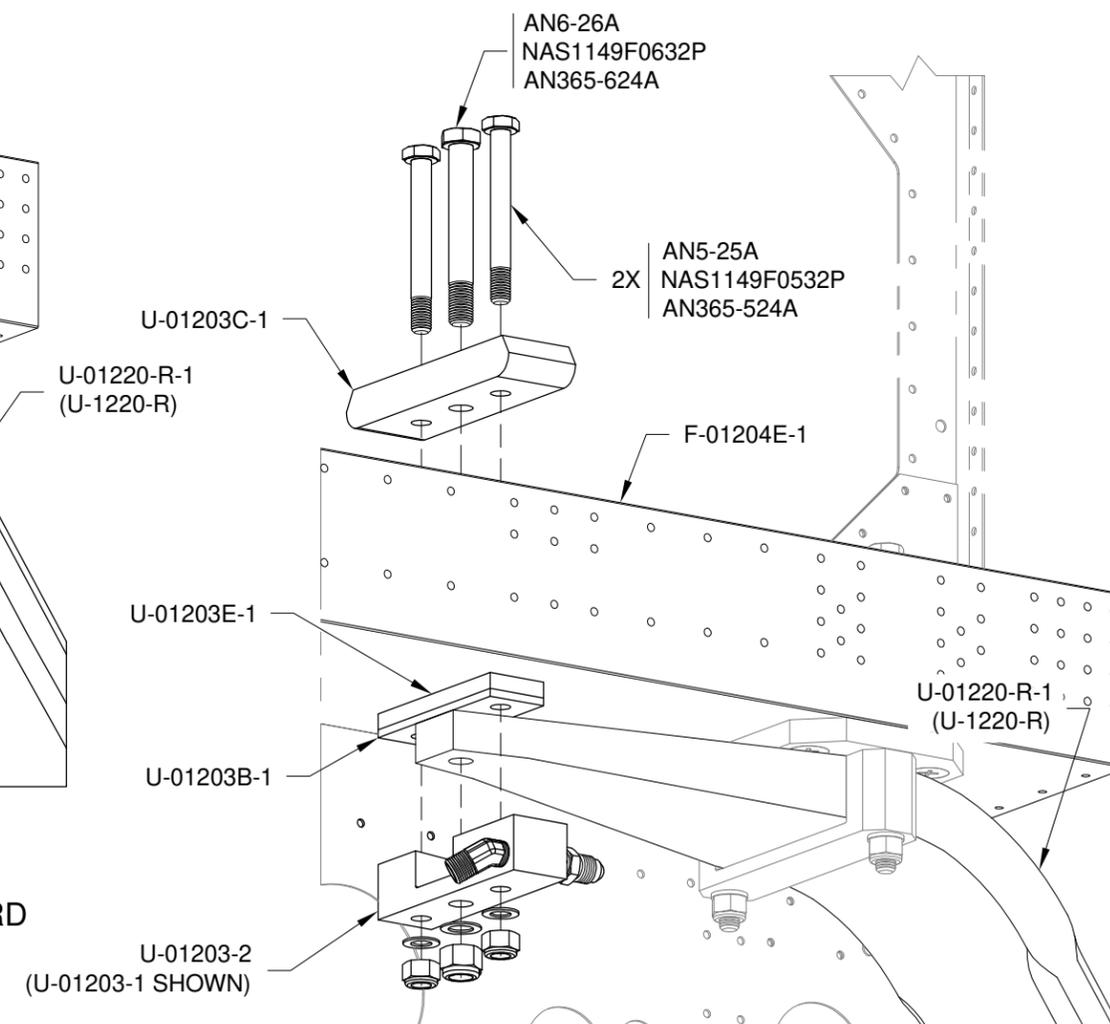

FIGURE 3: GEAR LEG ATTACH INBOARD
Step 5: Install the U-01203C-1, U-01203E-1, U-01203B-1, and U-01203-2 (U-01203-1 if using the older U-1220-R) using the hardware called out in Figure 3. Spacers can be used between the shop floor and the lower end of the gear leg to lever the inboard end of the leg away from the underside of the center section channel.